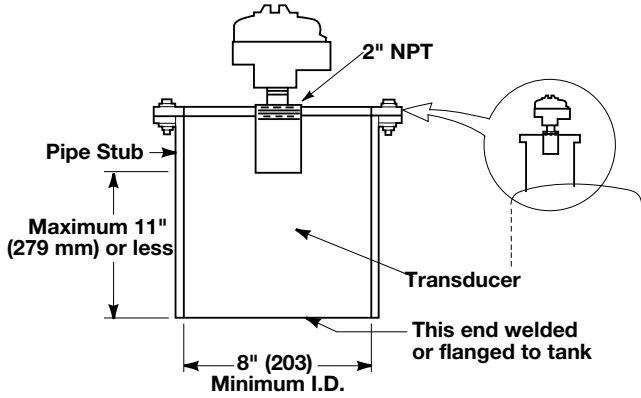

Figure 4
3. In applications where the material level may come into the dead band or where the full tank height will be used, the transducer must be mounted in a short, flanged pipe stub. The diameter of the stub should be at least 8 inches (203 mm) and its length should be limited to 11 inches (279 mm) from transducer face. Refer to Figure 4.
- Avoid installing the transducer in tank top openings that exhaust heated air or vapors. The boundaries between the vapors and the outside air often represent acoustic impedance gradients that can cause troublesome sound reflections. In those installations, the transducer should be mounted well away from the opening inside the tank, or in a pipe stub as illustrated here. Refer to Figures 4 and 5.